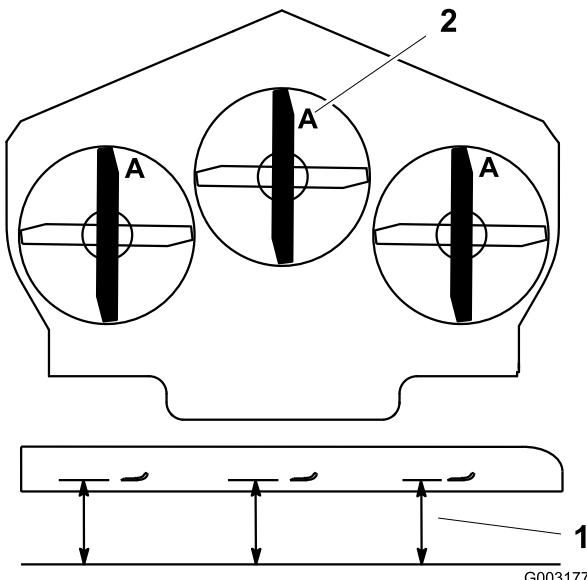

Figure 86
3. Rotate the blades until the ends face forward and backward (Figure 86). Measure from a level surface to the cutting edge, position A, of the blades (Figure 86). Note this dimension.